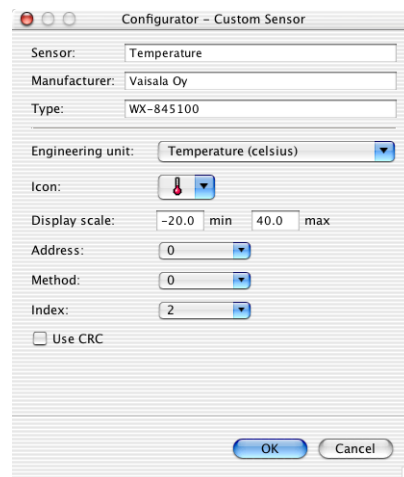

Figure 19. Defining a custom SDI-12 sensor
- c. Specific entries for SDI-12 sensors (see Figure 19) are: